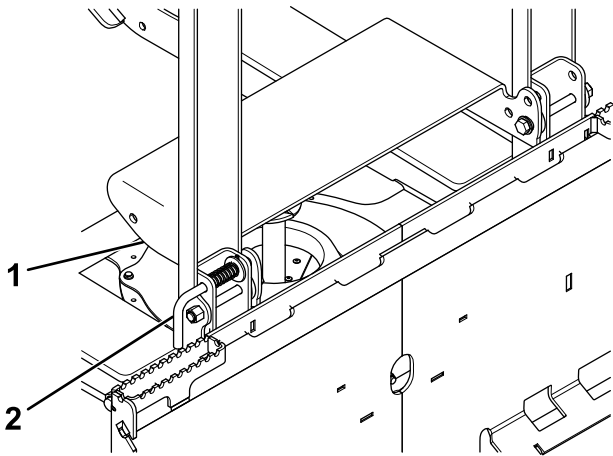

Figure 19
4. Pull the spring-pin handle and lower the cube stop (Figure 19).